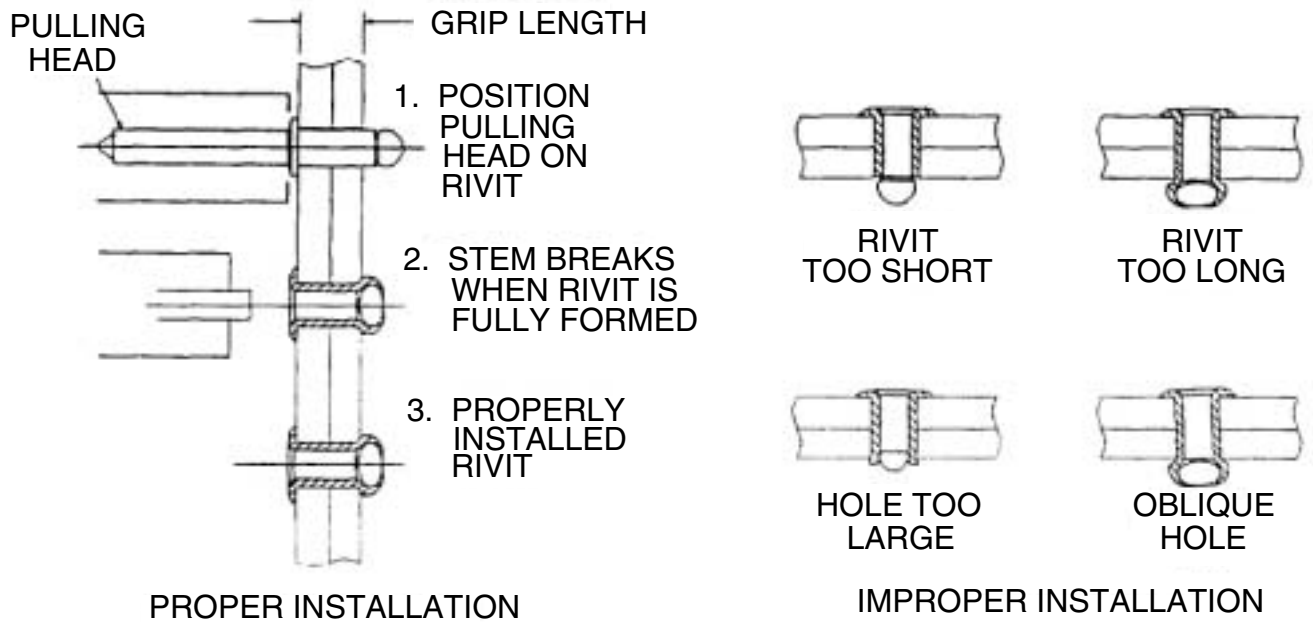

Figure 4-22. Rivet Installation
(1) Installation. (figure 4-22)